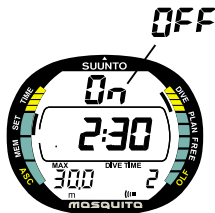
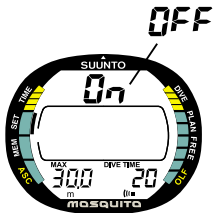

Fig. 4.11. Dive Time Alarm. Center window displays less than 5 minutes dive time.
Fig. 4.12. Dive Time Alarm. Display when more than 5 minutes dive time left.
2. Wait two seconds until the Dive Alarm Setting Mode activates automatically. The alarm status [On/ OFF] starts to blink on the display (Fig. 4.11.).
6. While the dive time minutes are selected (blinking), press + or - to change the time. If the time is less than five (5) minutes, the dive time alarm seconds can also be set. This feature can be used for freediving (Fig. 4.11.). If the selected time is over 5 minutes no seconds are displayed (Fig. 4.12.).